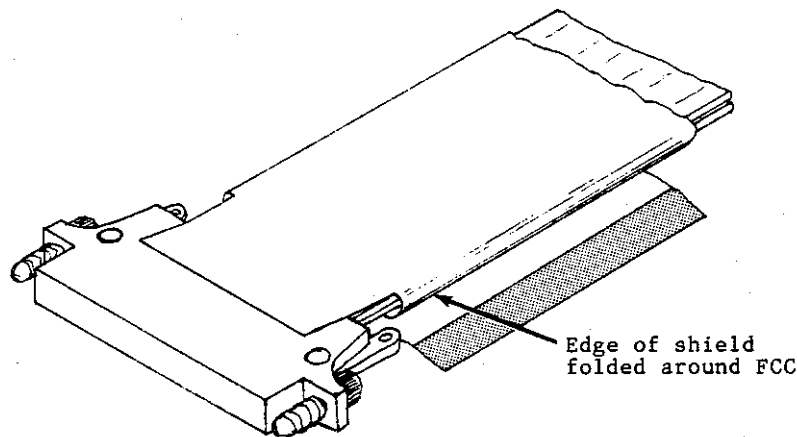

Figure 7-9. First Edge of Shield Folded Over
7. Fold the narrow edge of the shield (the edge without an adhesive strip) around the edge of the cable for the full length of the harness (Figure 7-9).